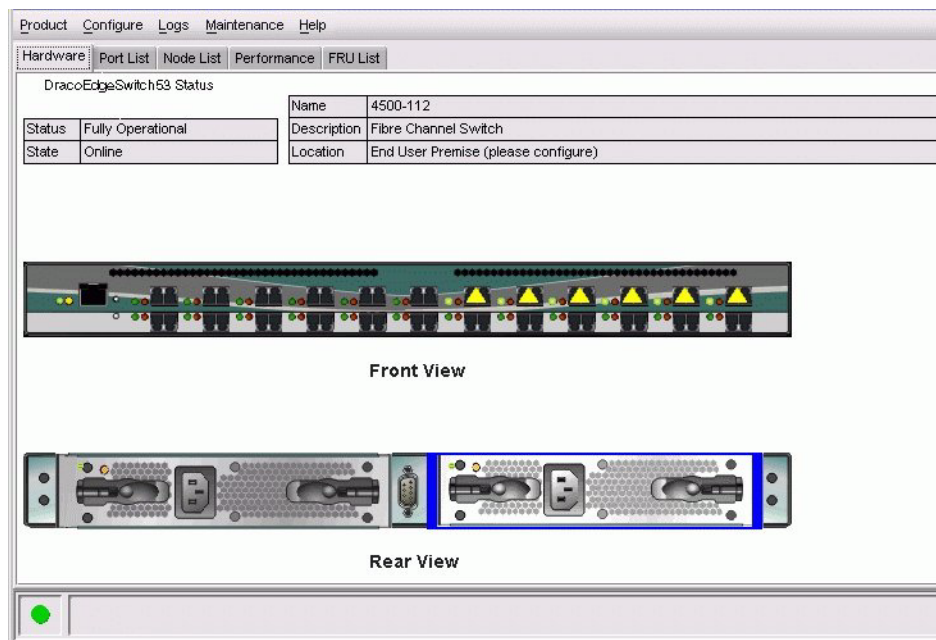

Figure 15: Switch Hardware View page
3. Select the **Element Manager** option from the pop-up menu. When the Element Manager application opens, the last view (tab) accessed by a user opens by default. The example in Figure 15 shows the **Hardware View**.